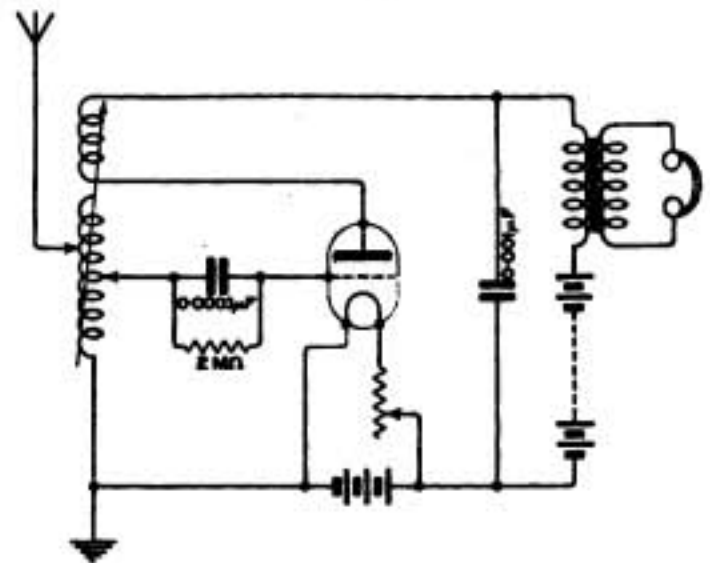

Fig. 4.
(1) You do not give details of your aerial, but with a two-wire P.M.G. aerial you would reach about 4,500 metres. (2) If you use the same gauge of wire you will require about 5" on a 4" diameter former, and the winding might preferably be tapped. (3) See Fig. 4, herewith; this circuit would be suitable for reception of telephony.